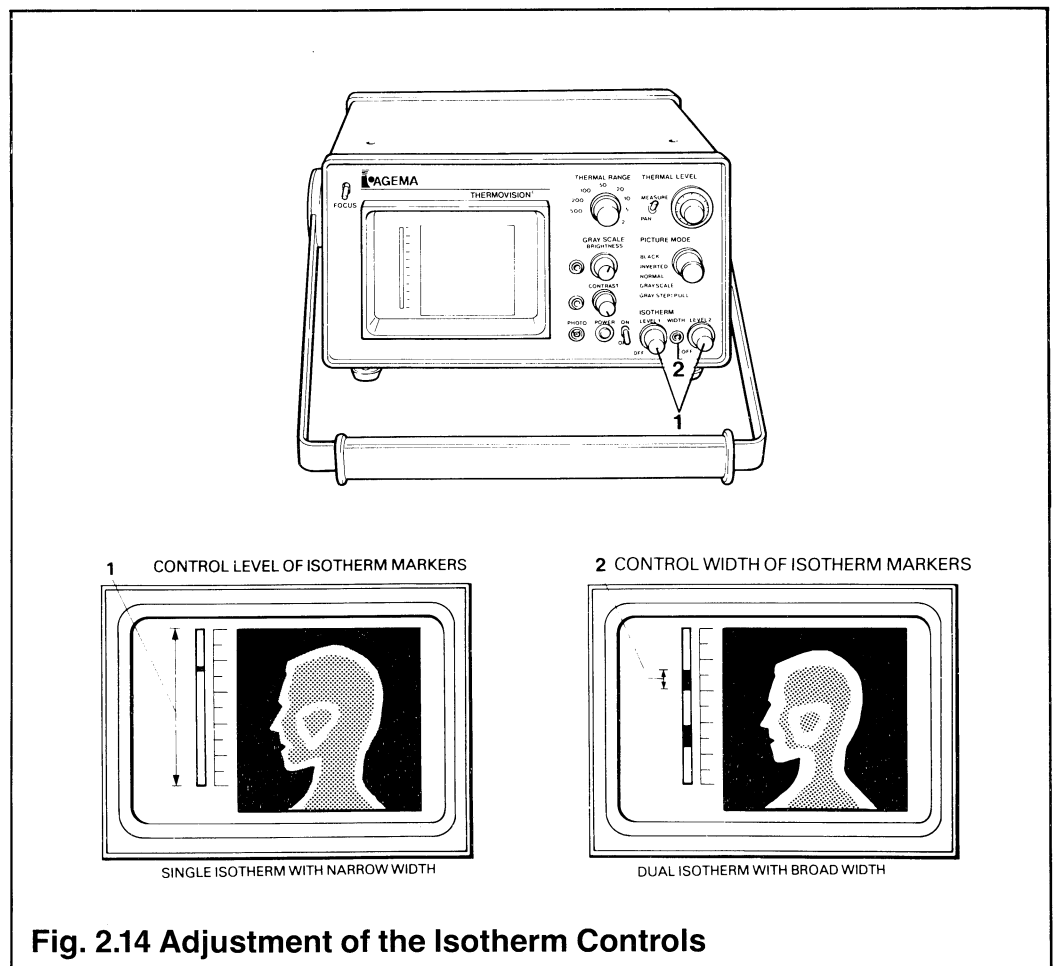

Fig. 2.14 Adjustment of the Isotherm Controls
- (k) Adjust the THERMAL LEVEL control until the thermal image of the object being viewed appears on the screen (Fig. 2.14).
To test the remaining controls proceed as follows (Fig. 2.14).